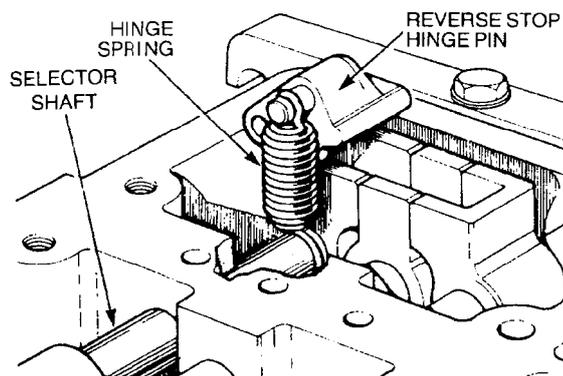

Figure 182 Installing the Reverse Hinge Spring
- ooo.** Ensure the crossover lever pivot bolt is secure then lock wire it to the side cover bolt. Connect the small hook to the reverse stop hinge pin (Figure 182).